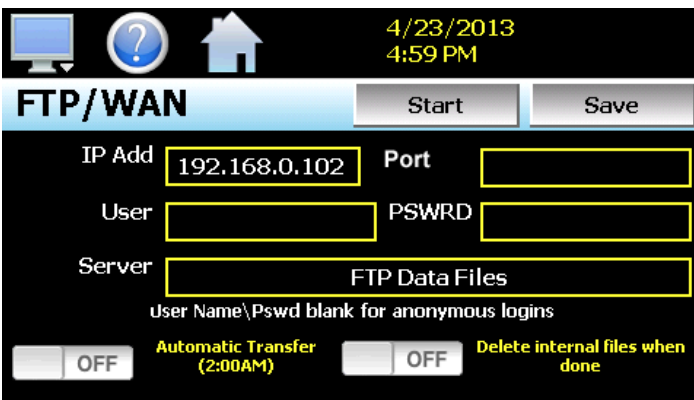

Fig. 81: FTP/WAN Screen
2. The FTP/WAN screen appears (Fig. 81). Enter the relevant information (described in the table below) in each box by selecting the box. Use the pop-up keyboard to enter the information.